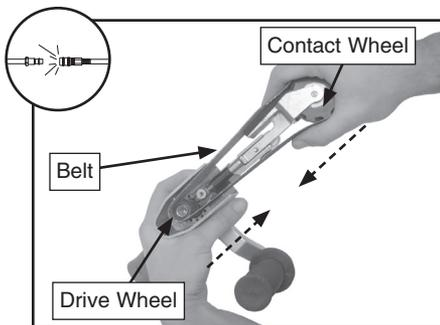

Figure 8. Removing the sanding belt.
- Compress the contact arm shaft by pressing the contact wheel towards the drive wheel. Slide the belt off the drive wheel, then release pressure (**Figure 8**).